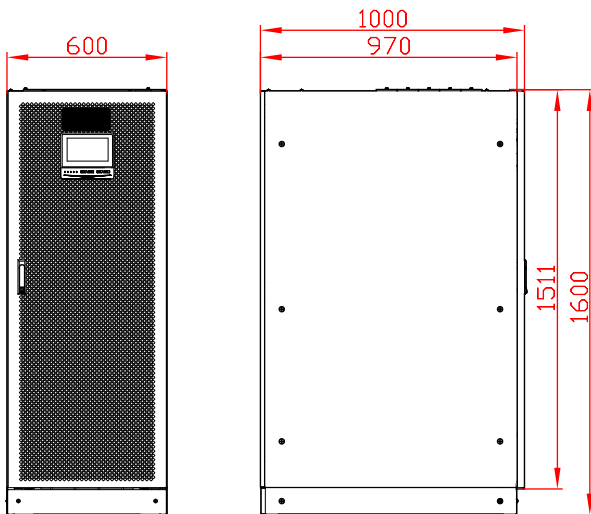

Figure3-16 Size of IST7-160, IST7-200
Step 1 Determine and plan the installation position according to the UPS size (as shown in Figure3-16) and installation clearance requirement (see 3.2.3 Installation).